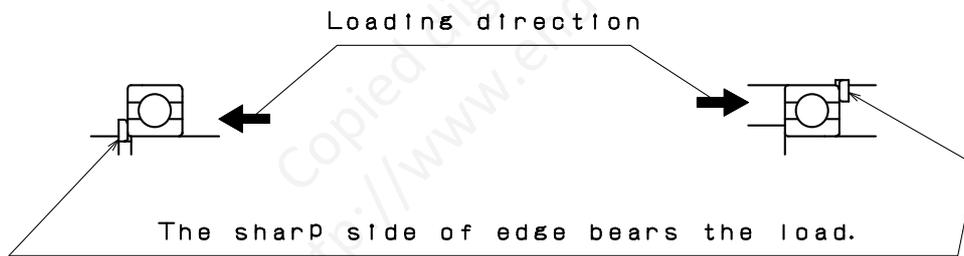

Fig.15
- 1) Assembling direction for Retaining ring (See Fig. 15)